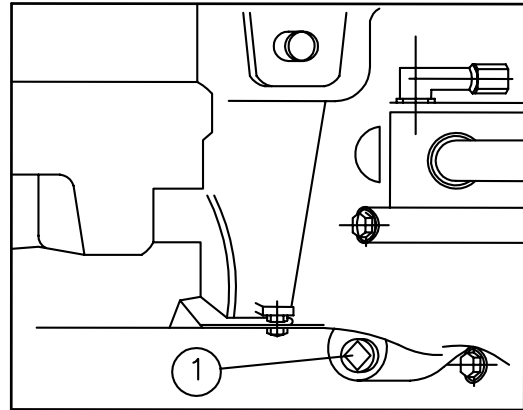

Fig.5-21
Axle housing (Fig. 5-21)
Fit the plug (1) (Fig.5-21) back when no more oil is coming out and fill up with fresh oil through the filler (2) (Fig.5-20) up to the level of filler hole.